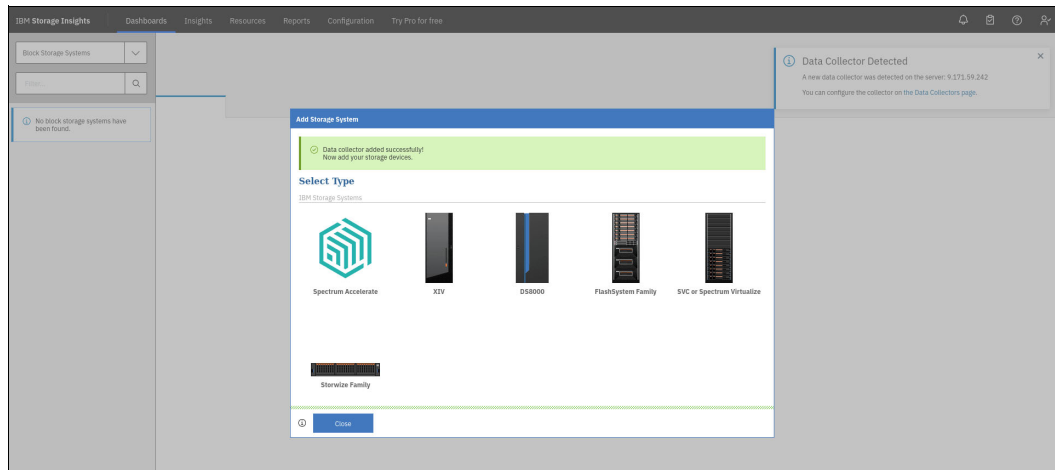

Figure 9-36 Adding storage systems to IBM Storage Insights
5. After the data collector is installed and communication is established, the IBM Storage Insights Dashboard view starts with an Add Storage System prompt, as shown in Figure 9-36.